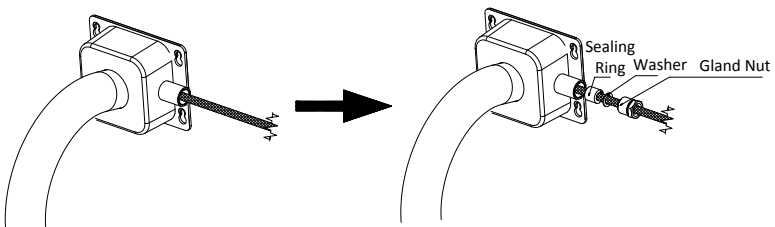

Figure 2-17 Seal the Cable Entry
- Seal the cable entry by routing the cables through the sealing ring, washer, and gland nut in order as shown in Figure 2-17.